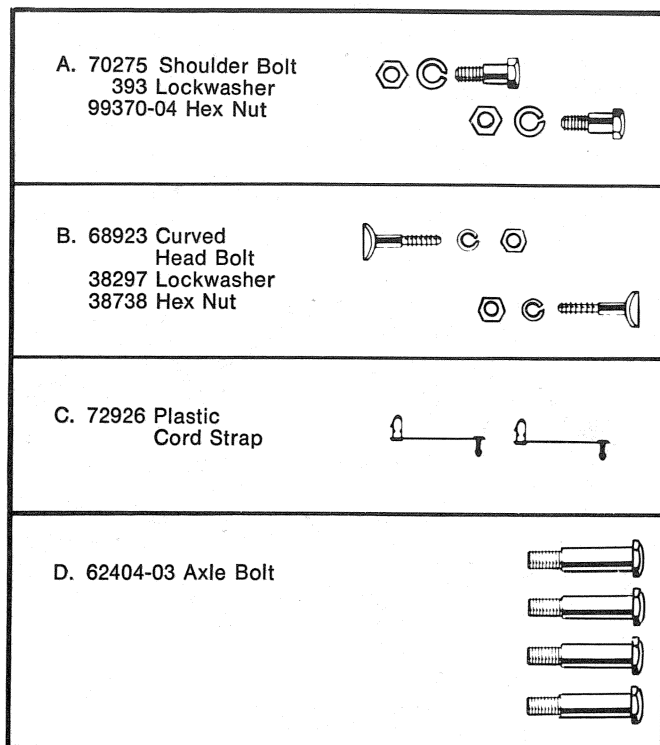
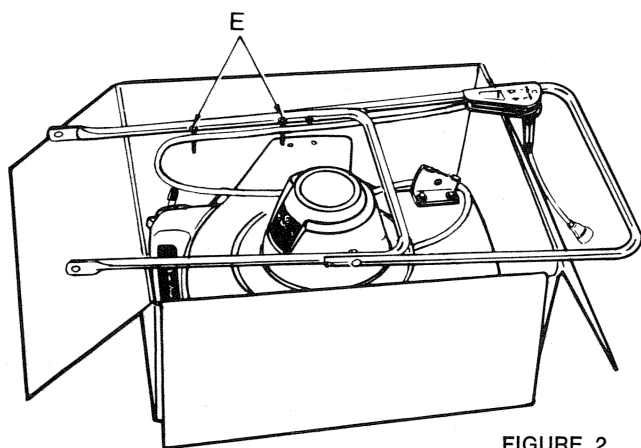
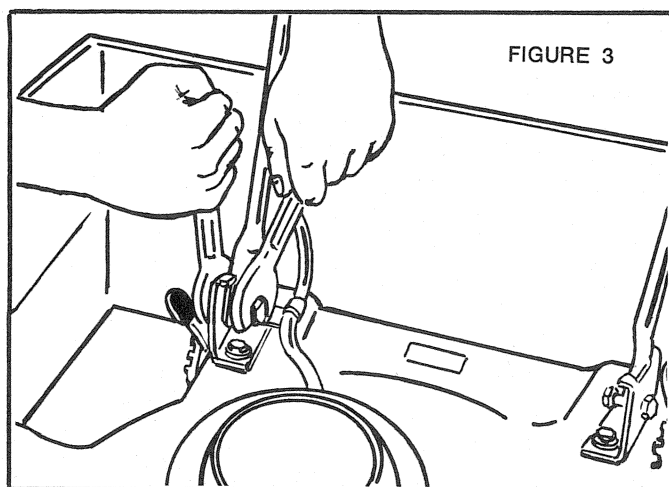

FIGURE 1
FIGURE 2
FIGURE 3
1. Open carton and remove cardboard fillers and plastic hardware bag(s) (contents shown in Figure 1).
2. Without removing mower from carton, insert larger, hollow end pegs on plastic straps (Item "C", Figure 1) into holes in lower handle section at locations "E", Figure 2. (These straps will be used later in step 4 to hold the cord close to handle.)
Fasten upper and lower handle sections together (Figure 2) with curved head bolts, hex nuts and lockwashers (Item "B", Figure 1). Handle must be assembled so that plastic straps "E" (Figure 2) are on the same side as the grass discharge opening.
3. Attach handle to mower deck with 2 shoulder bolts, lockwashers and nuts (Item "A", Figure 1). Squeeze handle legs together slightly to fit them into mounting brackets. Lockwashers go on outside under nuts. Tighten with two wrenches as shown in Figure 3.